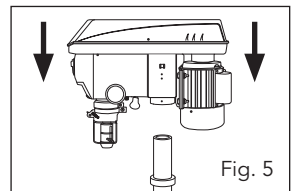

Fig. 5
5. Fit the main Housing (5) to the column (2). Align the head so that it is horizontal to the base (Fig. 5).